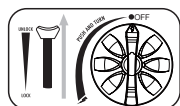

Fig. 9
2. Make sure ignition knob is in "OFF" position and cartridge lever is in "UNLOCK" position (Fig. 9). If the ignition knob is not completely in "OFF" position, the cartridge cannot be engaged into "LOCK" position.